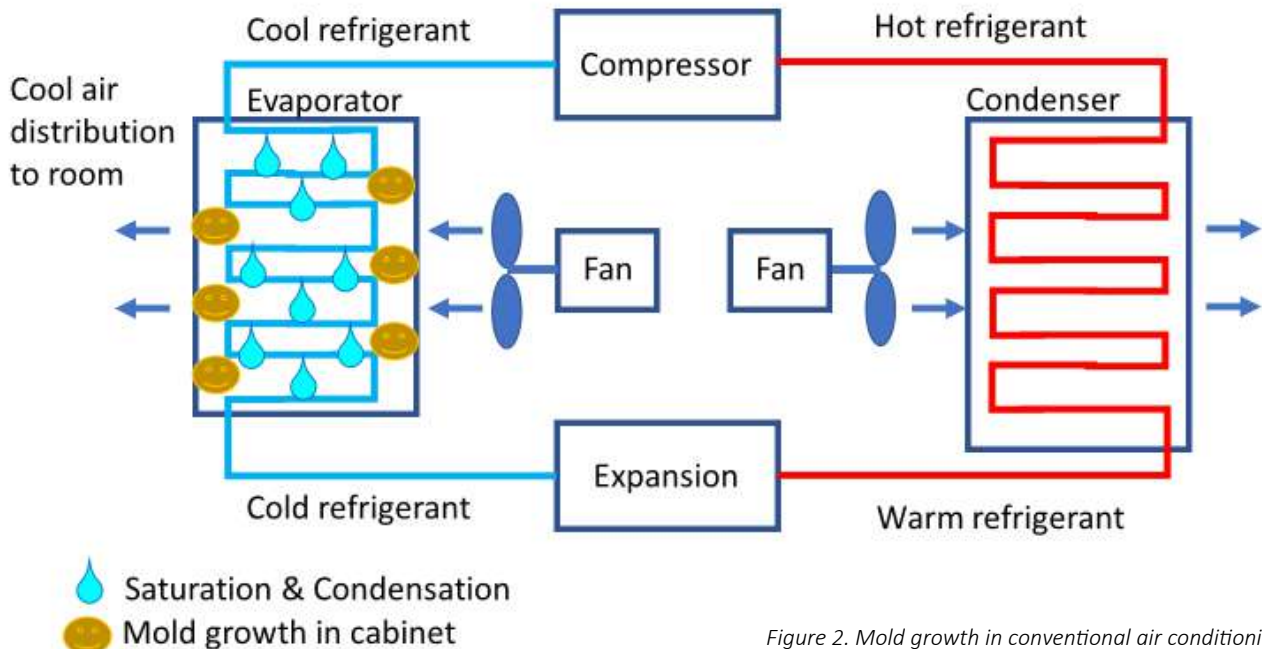

Figure 2. Mold growth in conventional air conditioning.
**Condensation** happens on the underside of a cold roof. Single-paned glass greenhouses of yesterday were energy intensive, but rather dry, owing to a great area of condensing/dehumidifying surface. The greenhouses that we use today with multiple wall glazing and screens/curtains dehumidify less, owing to warmer interior surface, and we struggle more to control humidity. Condensation is also what happens inside conventional, refrigerant and compressor-based air conditioning: Air is drawn across a cold refrigerant coil and water condenses and drains away. The challenges with this method are that saturated conditions are created on the building envelope or, with the case of air conditioning, inside the cabinet. Saturated conditions (100% relative humidity) combined with a food source like dust-borne nutrients, allows bacterial and mold to flourish and then be distributed throughout the canopy on the air stream travelling along surfaces or across the coils (See Figure 2: Saturation within Fan Coils). This, along with the electric energy intensity of operating a refrigerant compressor, has limited the adoption of conventional air conditioning and heat pumps.